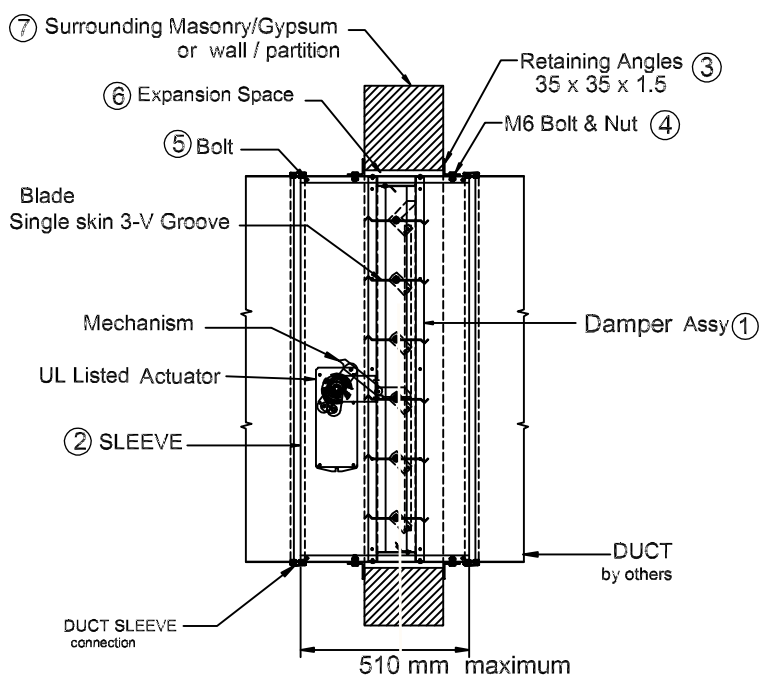

FIGURE 1
- 1) The damper (1) should be installed vertical, centrally and resting on the bottom opening within the surrounding masonry / gypsum wall (7). Actuator should be out of wall / gypsum partition as shown in (figure 1).
- 2) The damper (1) should be installed in a rectangular galvanized steel sleeve (2) with a minimum thickness of 1.1mm. This sleeve should be attached to the damper using M6 bolts (5) and spaced at not more than 110 mm centers and 30 mm from corners.
- 4) The sleeve (2) should be of suitable length to extend through the wall to enable the fitting of the cover angles and ductwork. Minimum of 90mm from the wall and total depth of the sleeve should not exceed more than 510mm.
- 5) The retaining angles (3) should be attached to the sleeve by 6 mm dia (4) bolts at a maximum of 110 mm centers, and should form a complete frame around the sleeve and cover over the expansion space (6) required between sleeve and wall opening. The four corner of the retaining angles are not to be welded. The bolts connecting the retaining angles to the sleeve to be 30 mm maximum from the corners. Retaining angles will be send in loose parts. Note: The retaining angles bolts should be out of the area of the damper frame.
- 6) The retaining angles (3) should be of such a size as always to form an overlap with the wall by 25mm minimum and should be manufactured from a minimum size of 35 x 35 x 1.5mm GI.